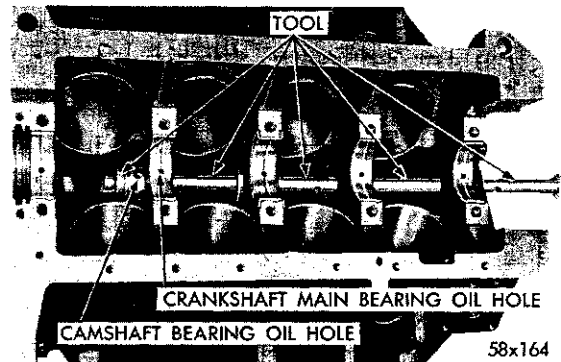

Fig. 31—Removing the Camshaft Bearing Using Tool C-3132A
(1) With the engine completely disassembled, drive out the rear camshaft bearing welch plug.
(2) Install the proper size adapters and horse shoe washers (part of Tool C-3132A) at the back of each bearing to be removed and drive out the bearings. (Fig. 31)
(2) Position the bearing in the tool. Install the horse shoe lock and by reversing the removal procedure, carefully drive bearing into place, as shown in Figure 31.
(3) Install the remaining bearings in like manner.
The oil holes in the camshaft bearings and the cylinder block must be in exact register to insure proper lubrication (Fig. 31).